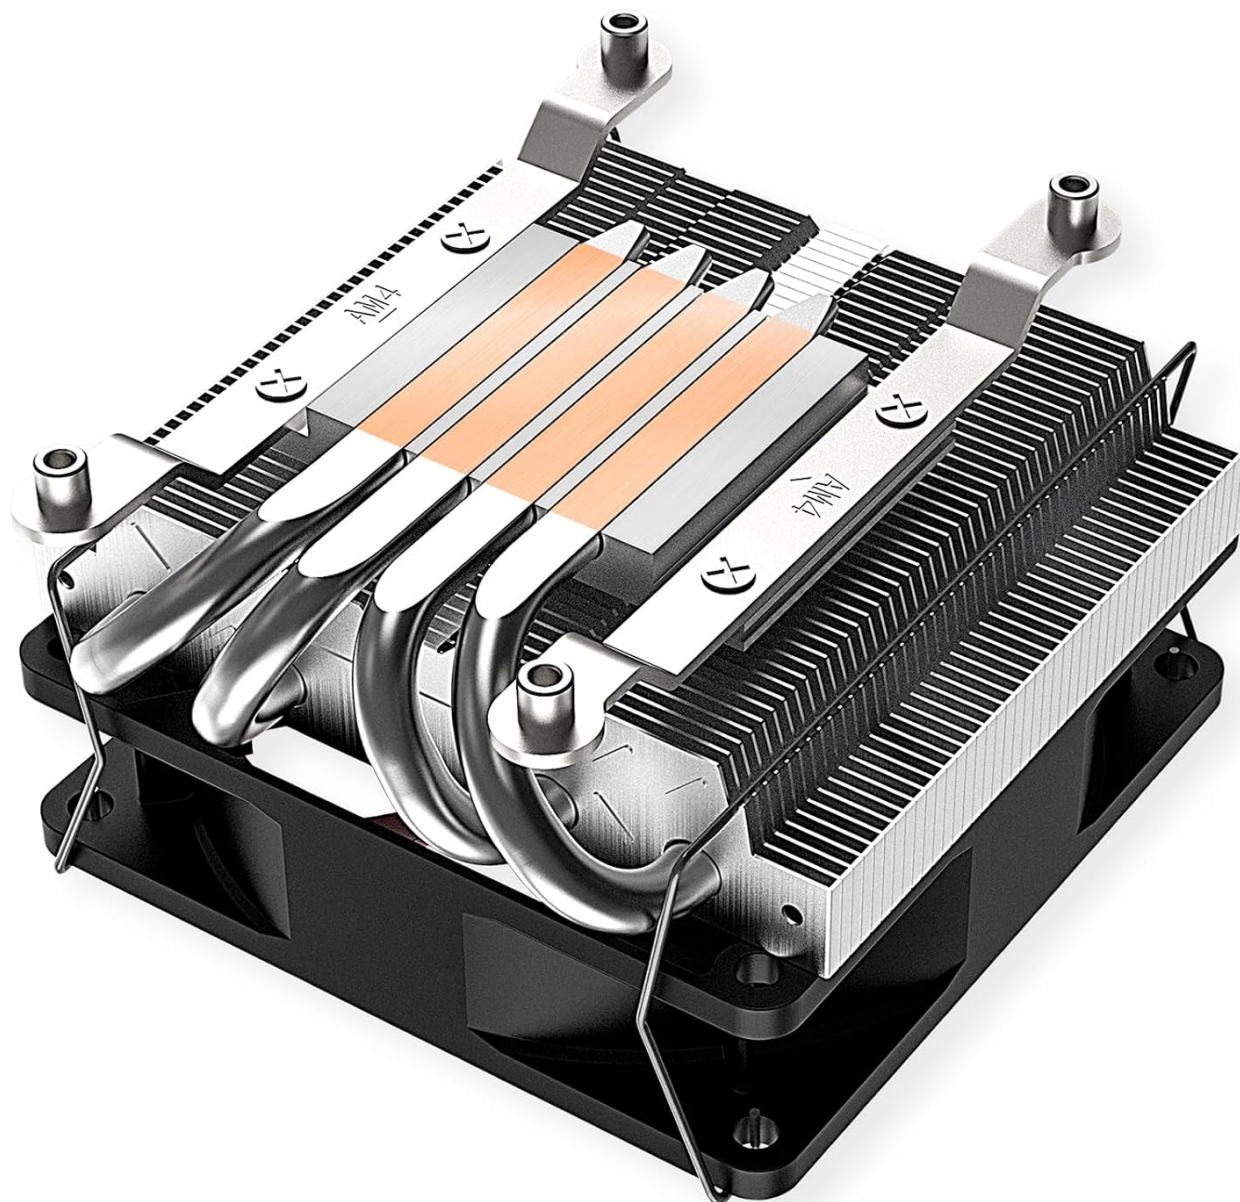

Figure 3.1: The underside of the cooler showing the heat pipes and the attachment points for the AMD mounting brackets.
1. Attach the appropriate AMD mounting brackets to the base of the heatsink using the provided screws. Refer to Figure 3.1 for bracket orientation.